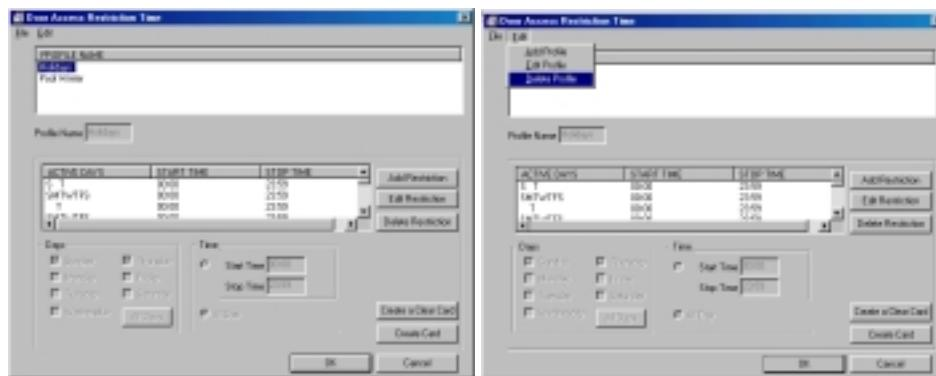

Figure 11.50 Deleting a Door Access Restriction Time Profile
1. In the Door Access Restriction Time window select a profile to delete from the Profile List Window (Figure 11.50).
2. Select Delete Profile from the Edit drop-down menu (Figure 11.50).